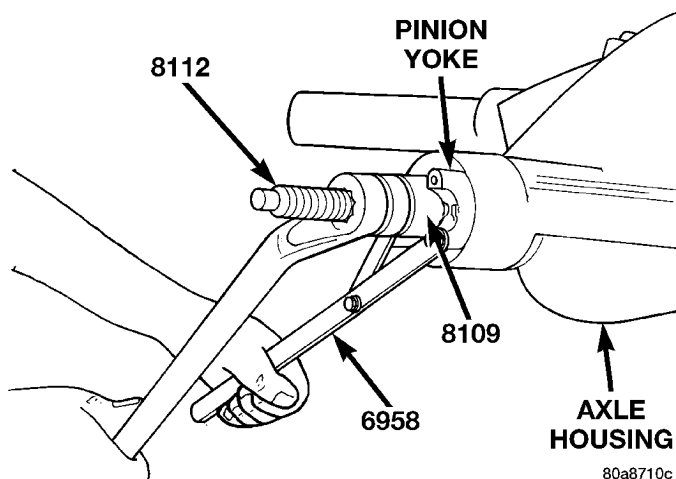

Fig. 51 Pinion Yoke Installation
(11) Install yoke with Installer Screw 8112, Cup 8109, and holder 6958 (Fig. 51).